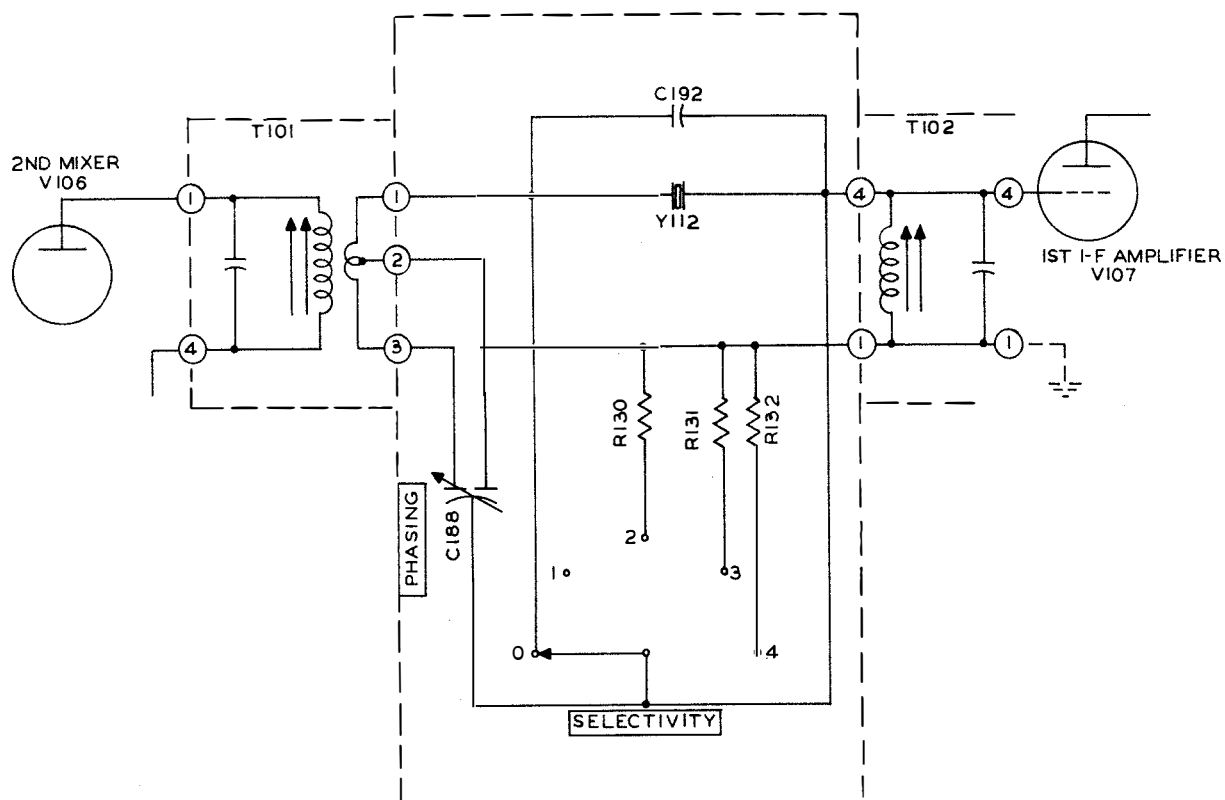
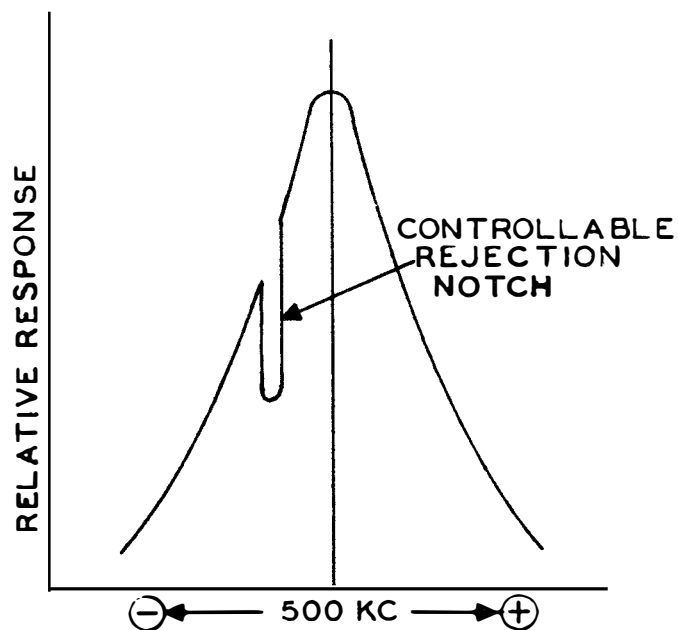

Figure 2-5. Crystal Filter
Figure 2-7. Crystal Phasing Rejection Notch
f. CRYSTAL FILTER. - Selectivity of the receiver is improved greatly by use of a crystal filter in the 500-kc i-f channel. The crystal filter circuit consists primarily of 500-kc i-f input transformer T101, a 500-kc crystal, and a high impedance tuned circuit T102, connected as shown in figure 2-5. When SELECTIVITY switch S114 is in position 0, the crystal is shorted and T101 is connected directly to T102. Thus, there is no crystal filter action when S114 is in position 0 and selectivity is determined by the receiver's tuned circuits above. When S114 is in any other position, crystal filter action takes place -- position 4 giving the greatest selectivity.
The primary purpose of the crystal phasing capacitor, C188, is to produce a controllable rejection notch in the i-f response curve so that unwanted heterodynes may be tuned out. Referring to figure 2-5, the section of C188 connected to the bottom end of T101 secondary provides a capacitive path around the crystal that balances out the shunt capacitance of the crystal in its holder and external capacitor C187. Varying C188 on either side of the balance point varies the anti-resonant frequency of the crystal circuit within 3 kc on either side of 500 kc. Since the impedance of the crystal circuit at anti-resonance is extremely high, the crystal filter rejects signals at the anti-resonant frequency. Thus at anti-resonant frequency points, the phasing action gives a sharp dip in response and the selectivity curve takes on a notch as illustrated in figure 2-7. This notch can be varied through the response bandwidth by positioning the phasing control.